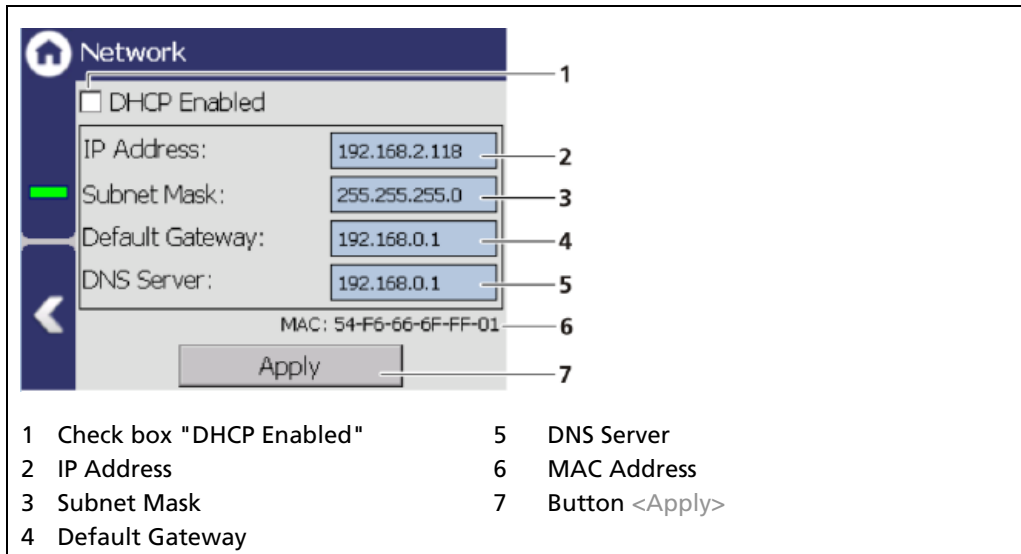

Fig. 39 Network settings
You can set the network address either manually or using DHCP (automatic assignment). To do this, check the "DHCP active" in the selection field (Fig. 39, item 1).
In the event of an automatic assignment of the IP address by a DHCP server, you can only look at the given IP address. A modification of the IP address is not possible. On this side, you can also read the MAC address of the device (Fig. 39, item 6).
1. Click on the text field (Fig. 39, item 2 - 5) to open the input field.
4. Click on <Apply> (Fig. 39, item 7) to adopt the network settings.
The IP address of the EVU must be in the same sub-network (Fig. 39, item 3) as the network adapter of the computer (see previous Chapter "Network").